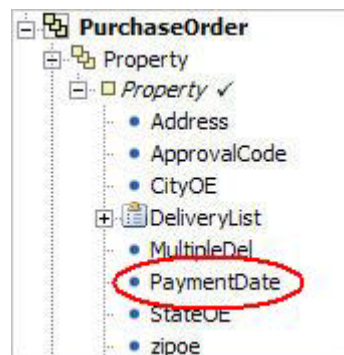

Figure 4-19. Payment Date – Using an Existing Property
- b. Click the plus sign to expand the Property rule type  (Figure 4-19). Each blue dot identifies a **simple** property rule, one that holds only a single value such as a date or amount. Other icons in this tree, such as , identify **aggregate** properties, which are similar to arrays and structures.